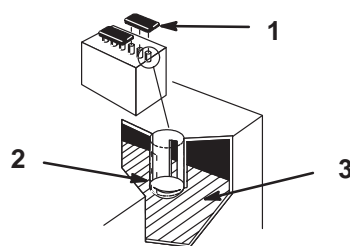

Figure 53
1. Open covers to see into the cells. The electrolyte must be up to the lower part of the tube (Fig. 53). Do not allow the electrolyte to get below the plates. (Fig. 53).
2. Lift off the filler caps (Fig. 53).
3. Slowly pour distilled water into each battery cell until the level is up to the lower part of the tube (Fig. 53).